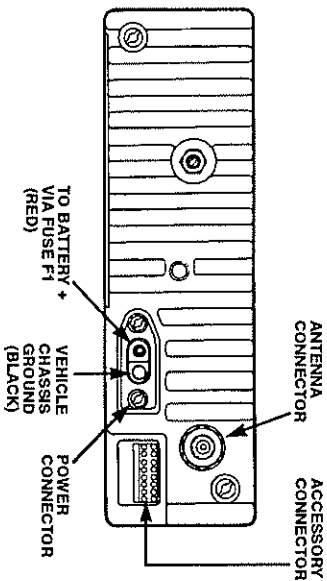

Figure 7. Connections to Radio Rear Panel
7. Connect the black lead of the power cable directly to the VEHICLE CHASSIS GROUND (refer to Figure 7).
8. Connect the red lead of the power cable from the fuse holder to the positive (+) battery terminal. Make sure the adapter cable is connected to the red lead of the main power cable (refer to Figure 7).
5. To complete your radio installation, plug the power cable into the radio **POWER CONNECTOR** (refer to Figure 7).
7. Connect the antenna cable connector to the radio **ANTENNA CONNECTOR** on the rear of the radio (refer to Figure 7).